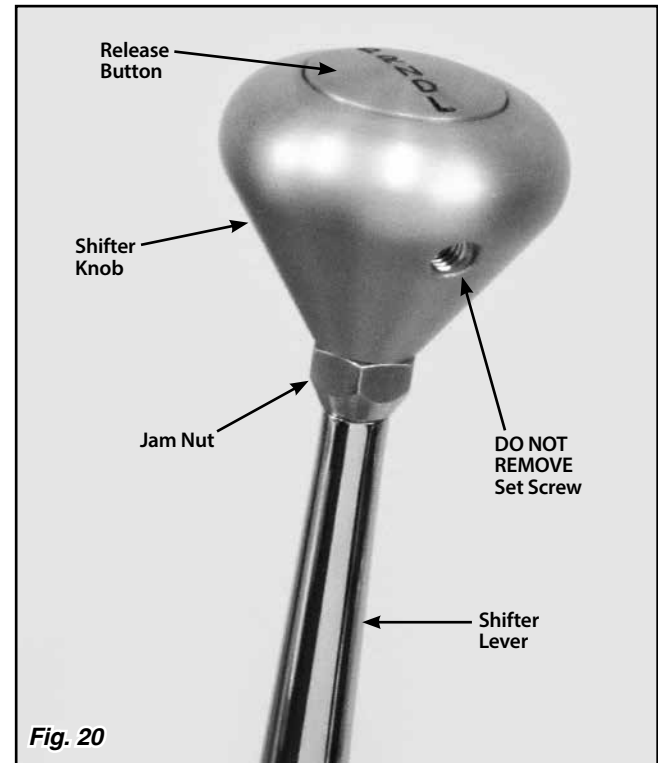

Fig. 20
- Step 2:** Loosen the jam nut below the shifter knob (turn the nut CLOCKWISE to loosen it). **DO NOT** loosen or remove the set screw that is in the knob. Fig. 20